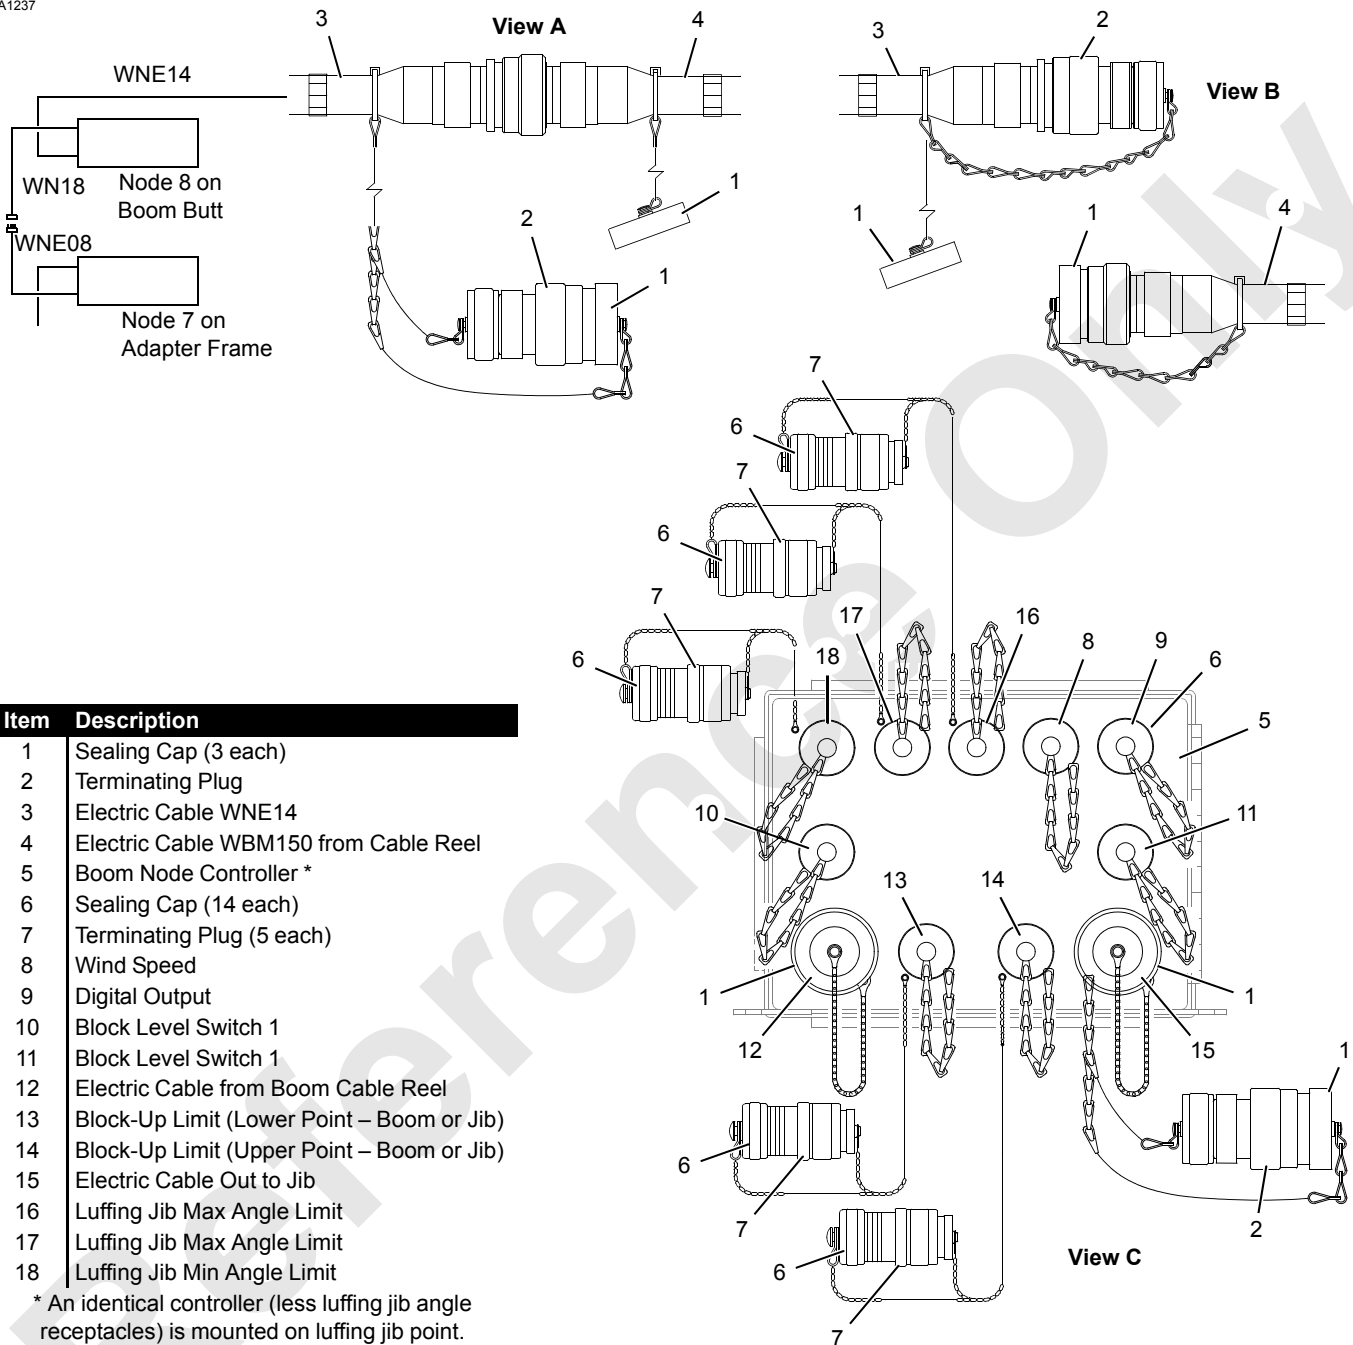

FIGURE 6-14
See Figure 6-14 for the following procedure.
See Figure 6-14 for the following procedures.
- f. Check that all plugs (Figure 6-14) are securely fastened.